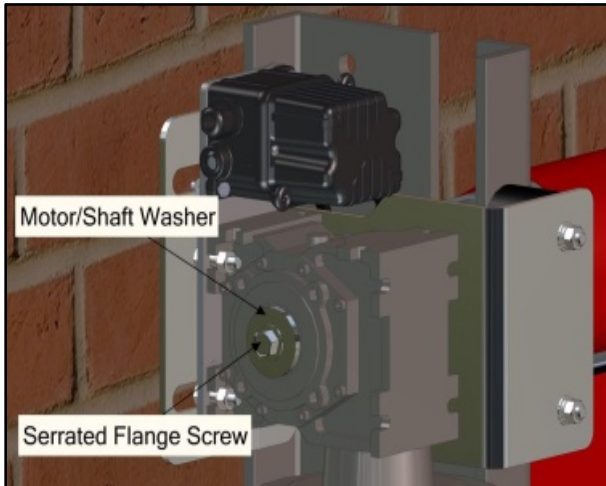

Figure 53
7. Remove serrated flange screw and flat washer from shaft end. (See Figure 53)